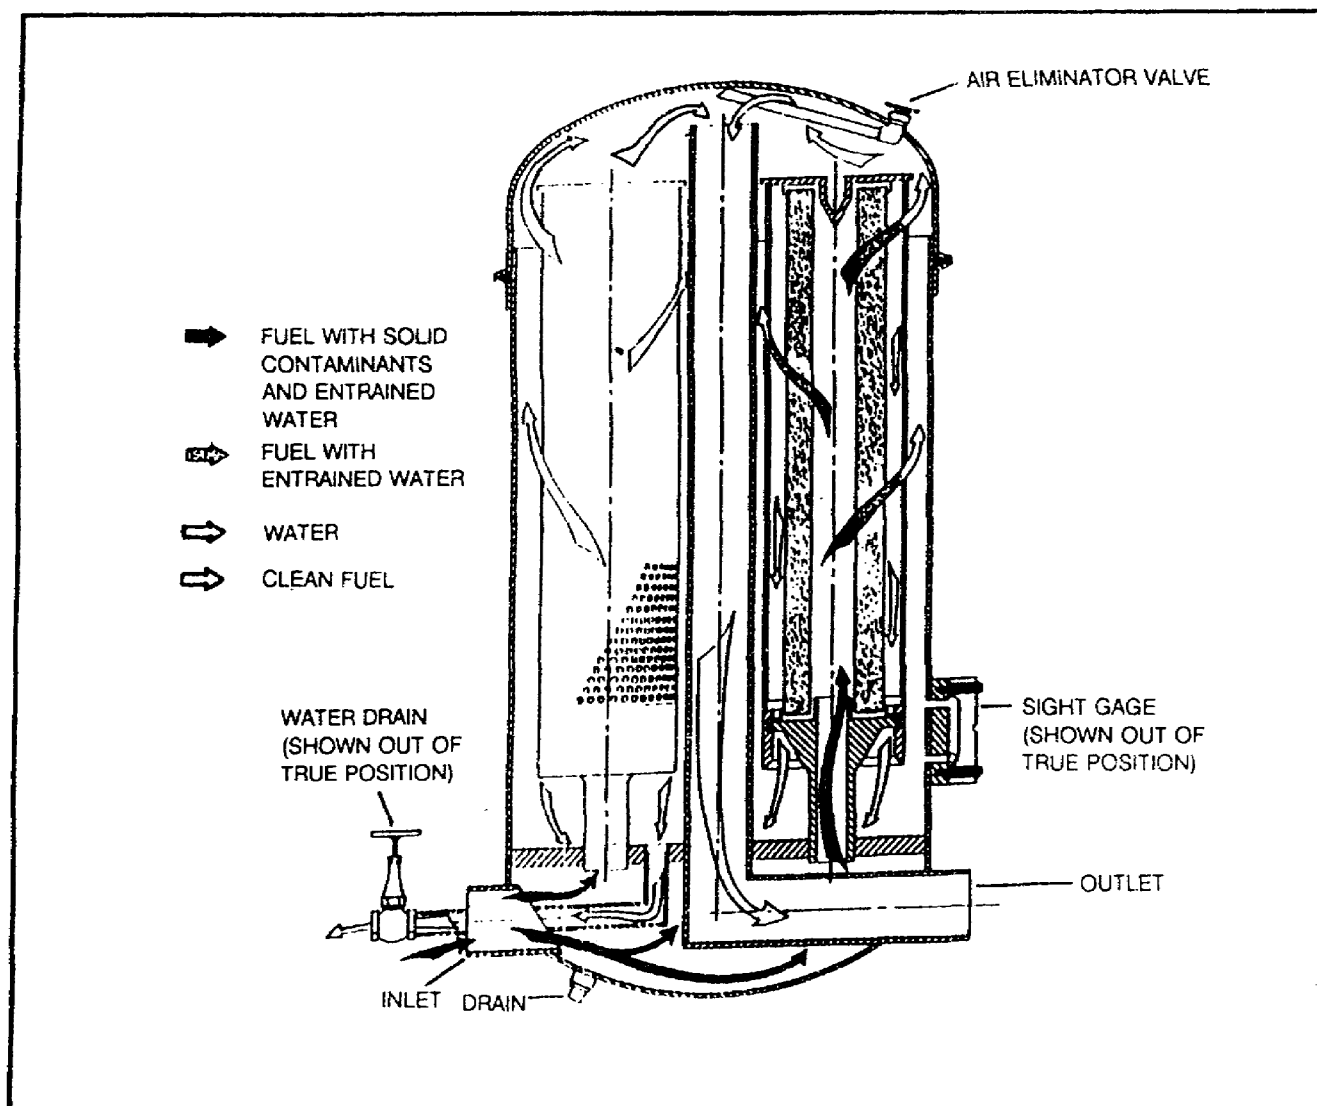

Figure 1-6. Flow of fuel through the 100-GPM filter/separator
(1) Filtration. During the filtration stage, raw fuel enters the center tube of the filter element through a fitting at the bottom of the canister. Solid contaminants are removed as the fuel flows outward from the perforated center tube through the fiberglass filtering material.
(2) Water Coalescence. As the fuel passes through the outer layers of the element, fine particles of water in the fuel coalesce into droplets. The fuel containing the coalesced water passes through the inner tube of the canister into the space between the inner and outer tubes. The metallic-coated screen of the outer tube does not allow water droplets to pass through it, and they fall to the bottom chamber of the filter/separator. Only clean fuel passes through the outer canister tube into the filter/separator tank. Figure 1-6 shows the flow of fuel through a 100-GPM filter/separator.